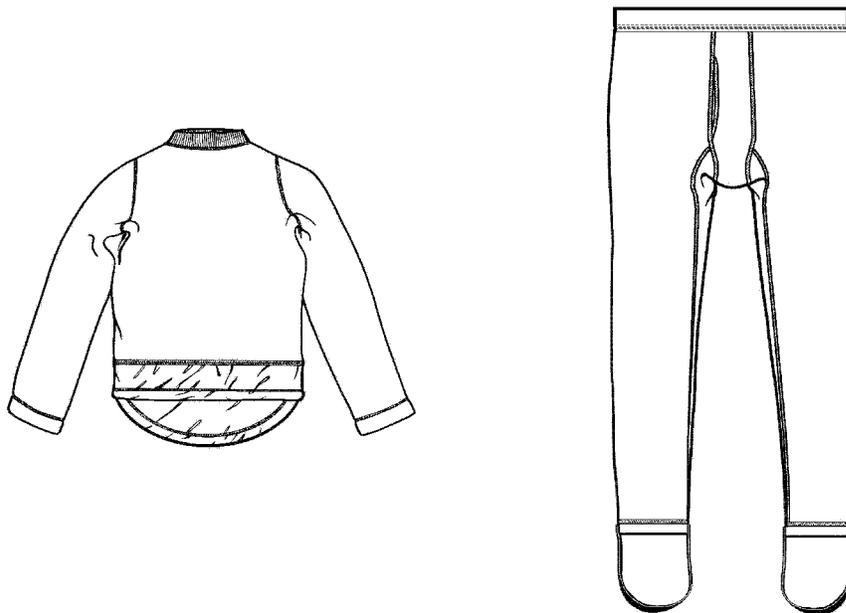

Figure 3-43. Midweight Shirt and Trouser
2. The midweight garment set (figure 3-43) is a medium weight layer for use alone or for layering over and under other layers of the MCPS. The set is constructed of an aramid fleece engineered to provide flame protection in a garment that wicks and provides a comfortable fit. The aramid fleece is worn on the inside next to the skin and a polyester Lycra blend on the outside to provide a closer fit. The shirt has an aramid mesh cloth on the bottom to reduce bulk when tucking in. The drawer has a front fly and elastic waist. The elastic stirrup on the bottom of the leg is to aid in donning layers overtop and can be cut off by aircrew who do not like this feature.